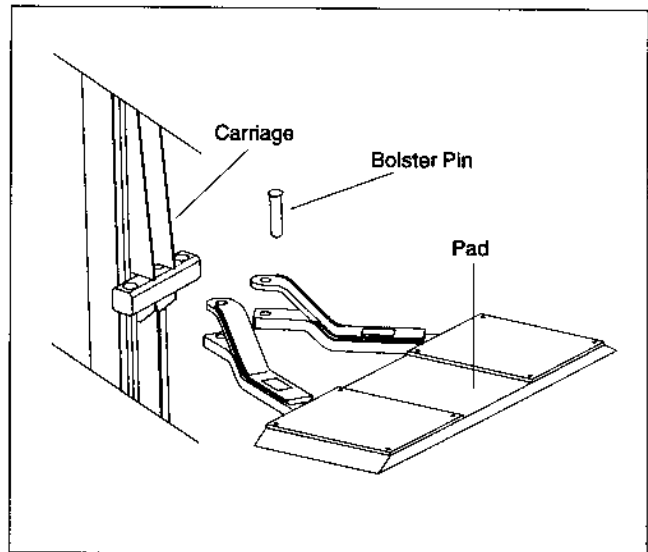

Figure 21 - APO-7 Lift Pad Installation
1. If you have an APO-7 lift with lift pads, slide the pads onto the carriage (Figure 21). Install the bolster pin through the pad and carriage.